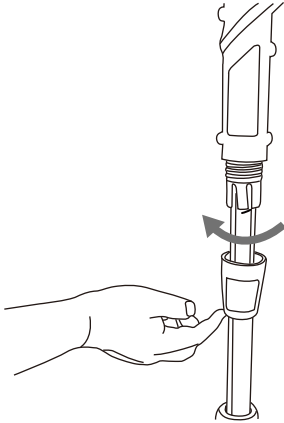

Fig 10
1. Unscrew the locking sleeve totally off from the upper handle (Fig 10).